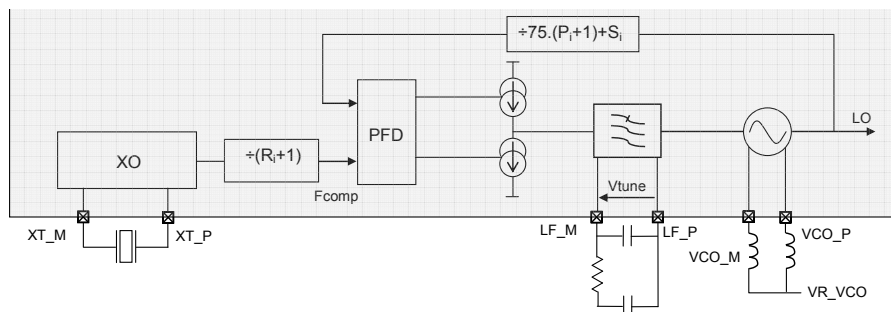

Figure 5: Frequency Synthesizer Description
The crystal oscillator (XO) forms the reference oscillator of an Integer-N Phase Locked Loop (PLL), whose operation is discussed in the following section. Figure 5 shows a block schematic of the SX1212 PLL. Here the crystal reference frequency and the software controlled dividers R, P and S determine the output frequency of the PLL.
As shown in Figure 5 the PLL structure comprises three different dividers, R, P and S, which set the output frequency through the LO. A second set of dividers is also available to allow rapid switching between a pair of frequencies: R1/P1/S1 and R2/P2/S2. These six dividers are programmed by six bytes of the register MCPParam from addresses 6 to 11.